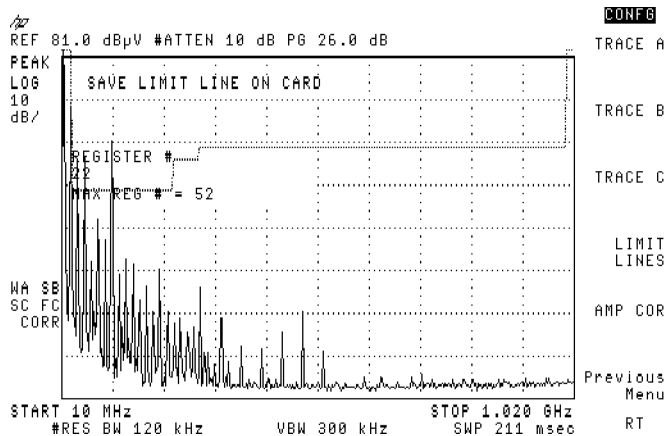

Figure 3-75. INTERNAL TRACE Softkey Screen
5. Press 22, **ENTER** (same as the **Hz** key in the analyzer's lower-right corner) to save the limit lines to internal register 22. See Figure 3-75.